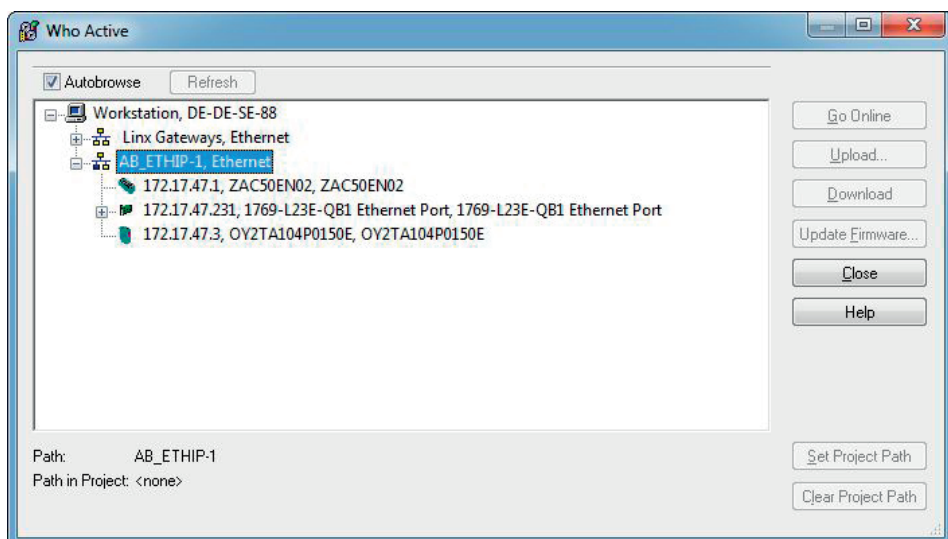

Figure 9: Who's Active
- All existing network participants are listed in the “Who’s Active” network overview, which can be found under “Communication” (see figure 9). This makes it possible to determine whether or not all connected network participants have been detected.